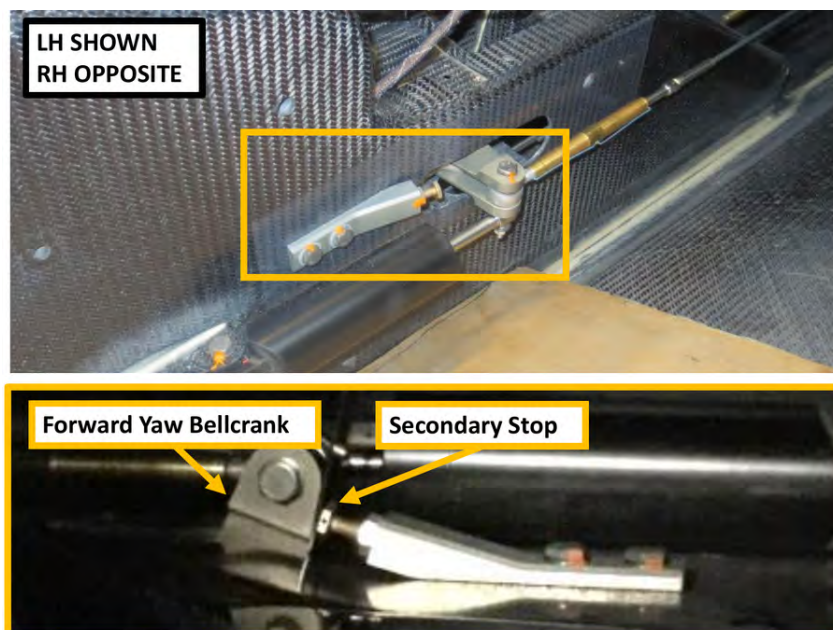

FIGURE 10-63
24. With the aid of another person, adjust the secondary stops, torque to 12-15 in-lbs. Do not exceed 25 in-lbs. Depress the RH pedal until the primary stop is contacted. Adjust the gap between the secondary stop and bellcrank to 0.032-0.036 in. See Figure 10-63.